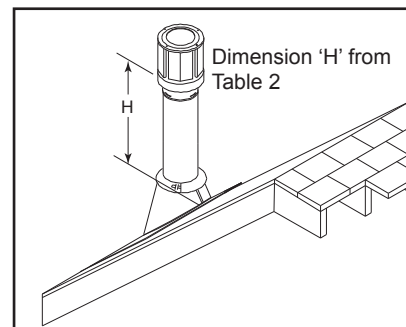

Figure 35
**Step 8** - Continue to add pipe sections until the height of the system (before adding the cap) meets the minimum building codes requirements as described in Table 2, Figure 35. Note that for steep roof pitches, the vent height must be increased. In high wind conditions, nearby trees, adjoining rooflines, steep pitched roofs and other similar factors can result in poor draft, or down drafting.